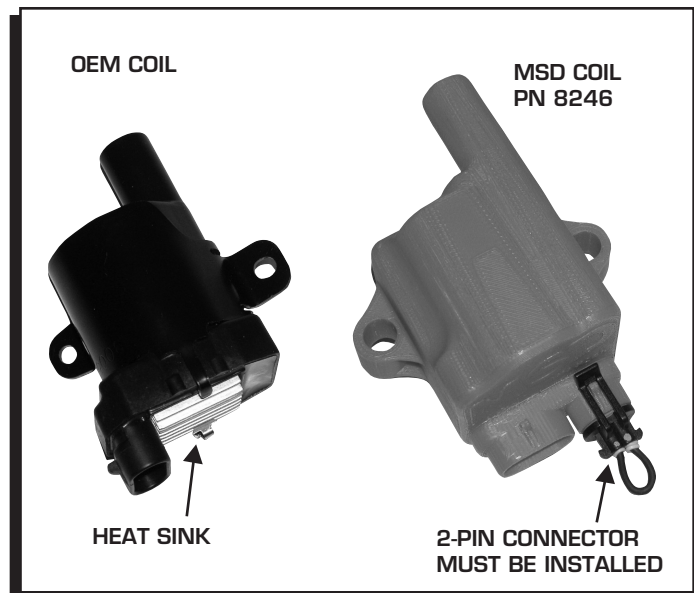

Figure 1 Coil Connectors
The original coil will have a heat sink, an aluminum looking panel, on one side (Figure 1). It also has the socket for the spark plug wire on the opposite side of the coil harness connector. (If the spark plug wire and harness connector are on the same side, you may require the MSD PN 8245 coil.
**IMPORTANT:** Notice that the MSC II Coil has a 2-pin connector (Figure 1). This 2-pin connector must be plugged in to the coil. If not, the coil will not operate. This additional connector is for an optional ignition/timing control.